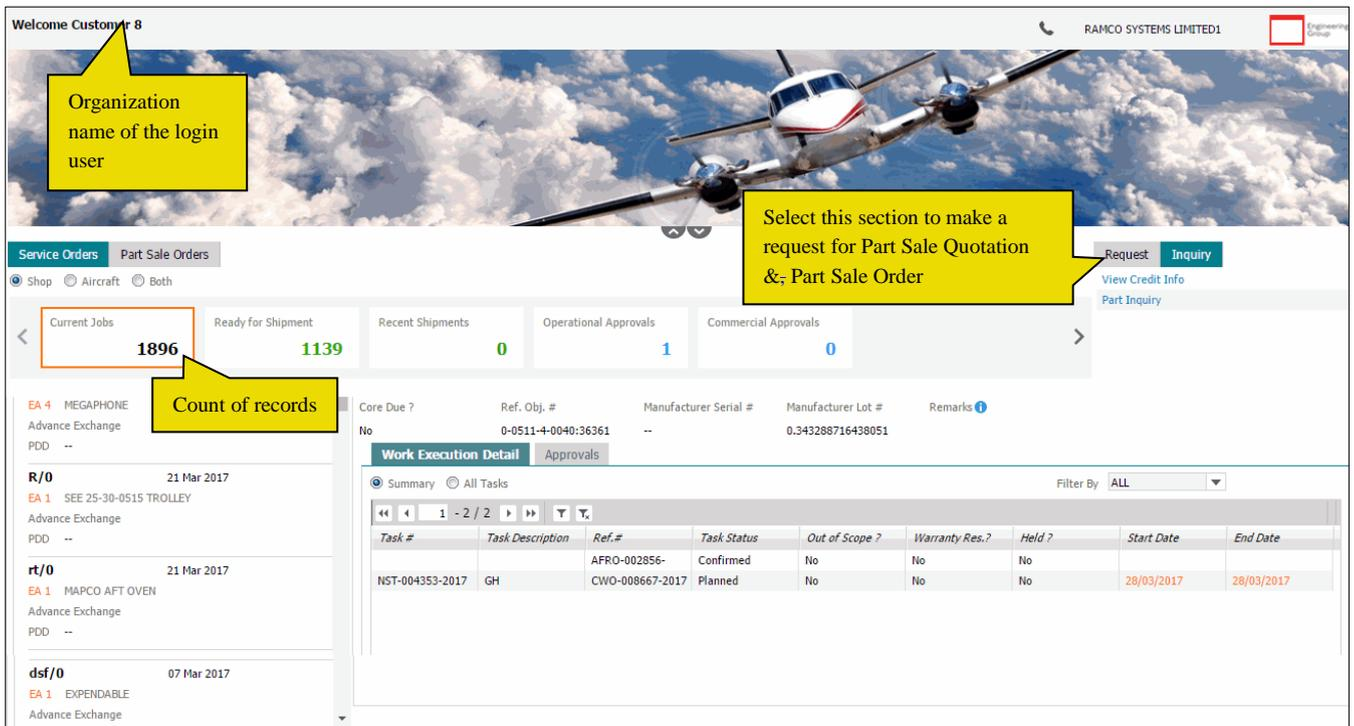

Figure 2.3 Customer Portal
1. Select the **Customer Portal** activity in the **Customer Portal** business component. The **Customer Portal** screen appears. See *Figure 2.3*.